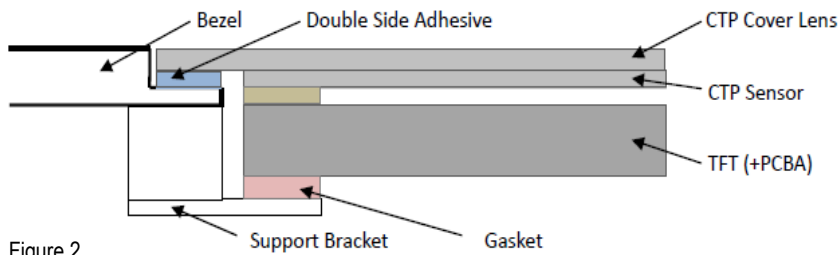

Figure 2
**10.2 Surface Mounting (Figure 2)**
10.2 嵌入安装 (附图 2)